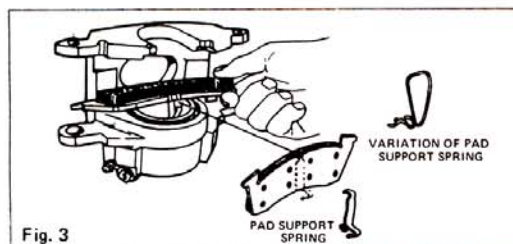

Fig. 3
6. Remove outer pad and plate from caliper. Then remove inner pad and plate and pad support spring as shown in Fig. 3.
3. Assemble pad support spring on inner plate as shown in Fig. 3. Then assemble pad and plate in caliper. Press down on pad to set pad support spring inside piston.